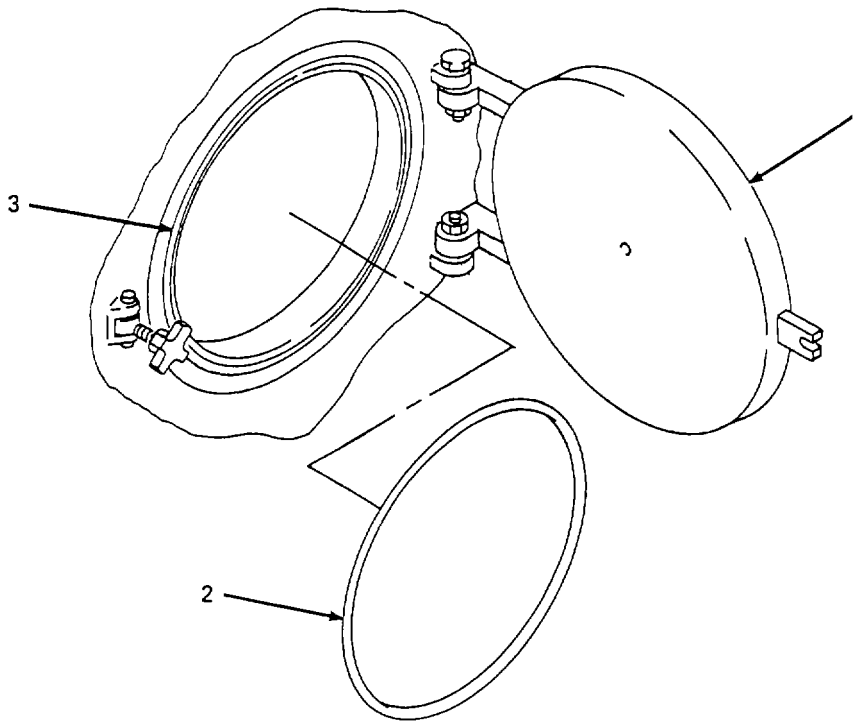

Figure 4-5. Service of Medical Lock Inner Door Seals.
d. Medical Lock Inner Door. (figure 4-5)
- (1) Open door (1) and gently pry preformed packing (2) from door seat (3).
- (2) Replace preformed packing if severely nicked or cut.
- (3) Lubricate preformed packing to be installed using halocarbon grease (Appendix E, Item 13).
- (4) Install preformed packing (2) in door seat (3) and close door (1). Door should close and lock easily.